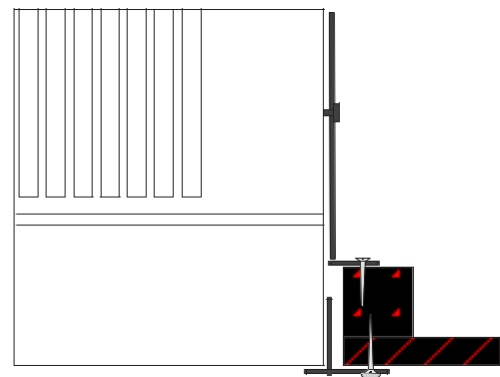

Fig 2
2) Locate the brackets to sit on top of the support frame (see Fig 2).Position the grille frame in the opening and loosely fix with the 2 round headed screws provided. Place unit in ceiling from above and position within grille frame. Secure brackets with woodscrews provided, tighten grille frame fixing screws.